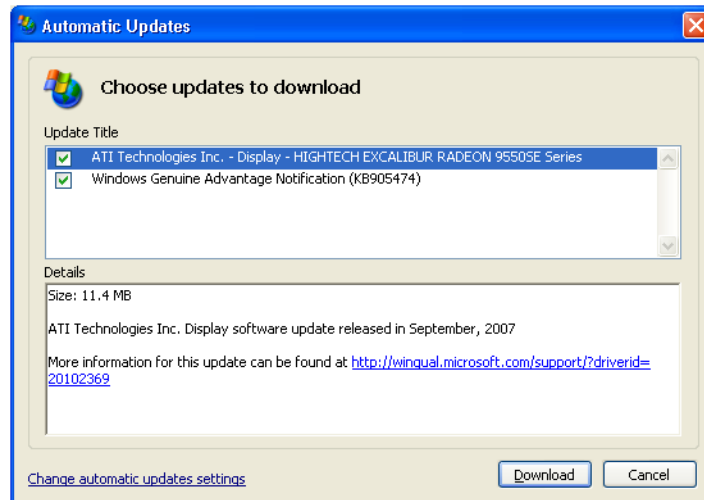

Figure D-2 Automatic Updates Window (Choose updates to download)
5. Review the updates shown in the AUTOMATIC UPDATES window and unselect any driver or hardware update. See Figure D-2 below where a hardware driver update has been unselected.